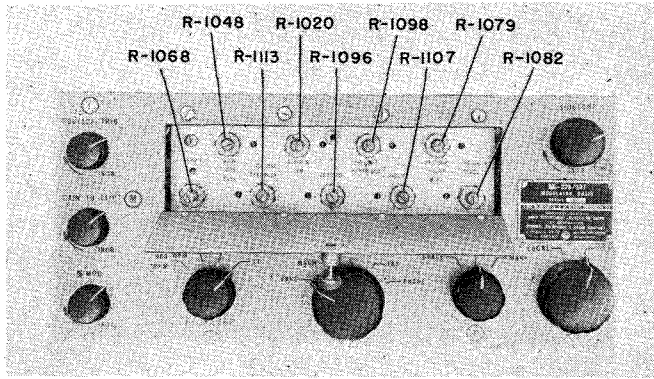

Figure 7-63. Radio Modulator MD-229/SRT Unit Adjustments, Door Opened
Step 3. Set the 250 V.P.S. control (figure 7-63) for a 250-volt reading on the ME-25A/U Multimeter.